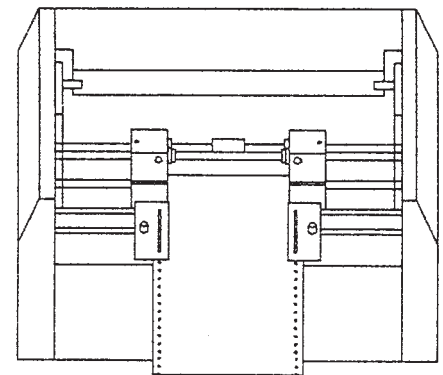

FIG 10
9. Using the Handwheel, guide the form thru until the Snap Roller grabs the form. (Fig. 10)